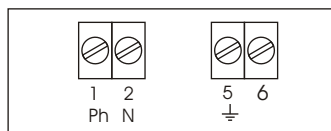

Fig. 10
- 1 - Connect the power supply (230 Vac) to the terminal blocks (fig. 10):